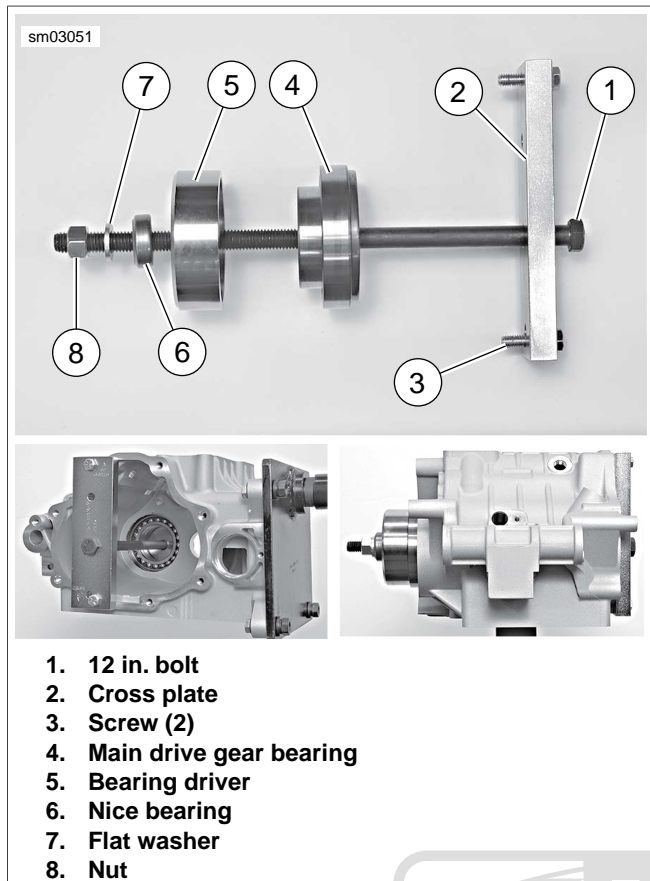

Figure 6-42. Installing Main Drive Gear Bearing (Typical)
1. See Figure 6-42. Place CROSS PLATE (Part No. HD-35316-3A) (2) on right side of transmission case as shown, and secure with two screws (3). Position cross plate so that large bolt hole in cross plate is lined up with center of main drive gear bearing bore in left side of transmission case.
2. Apply a light coat of graphite lubricant to the threads of 12 IN. BOLT (Part No. HD-35316-5) (1) and install through cross plate and main drive gear bearing bore.
3. At left side of case, place main drive gear bearing (4), BEARING DRIVER (Part No. HD-35316-8) (5), NICE BEARING (6), FLAT WASHER (7) and NUT (8) over end of bolt.